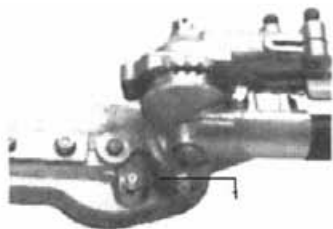

Fig.HT16
c. Slide the gearcase out of the tube. Using a grease gun, pump lithium-base grease (about 10 grams) into the grease fitting on the gearcase until you see old grease being purged from the gearcase (Fig.HT16). Purged grease will be visible in the outer tube cavity. Clean up the excess grease and then reassemble the gear case onto the outer tube.